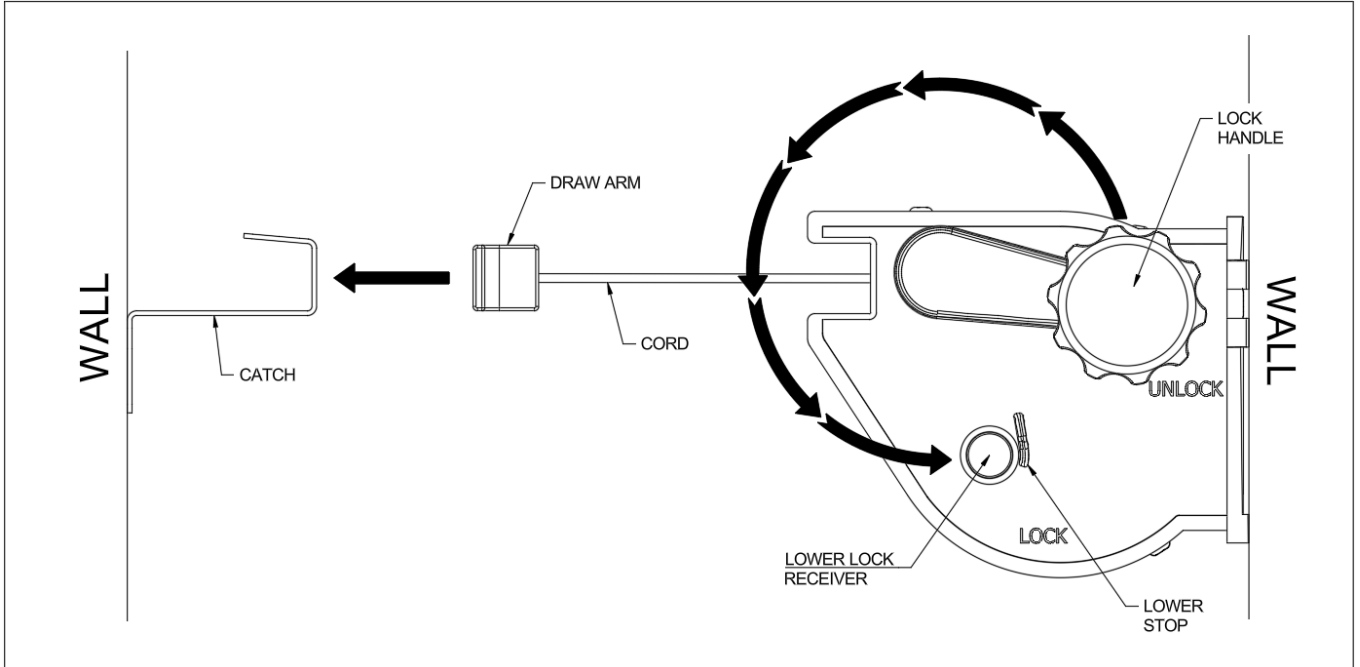

Fig 8. To Extend.
- The Retract Away Plus is now locked and ready to use. (Fig 8).